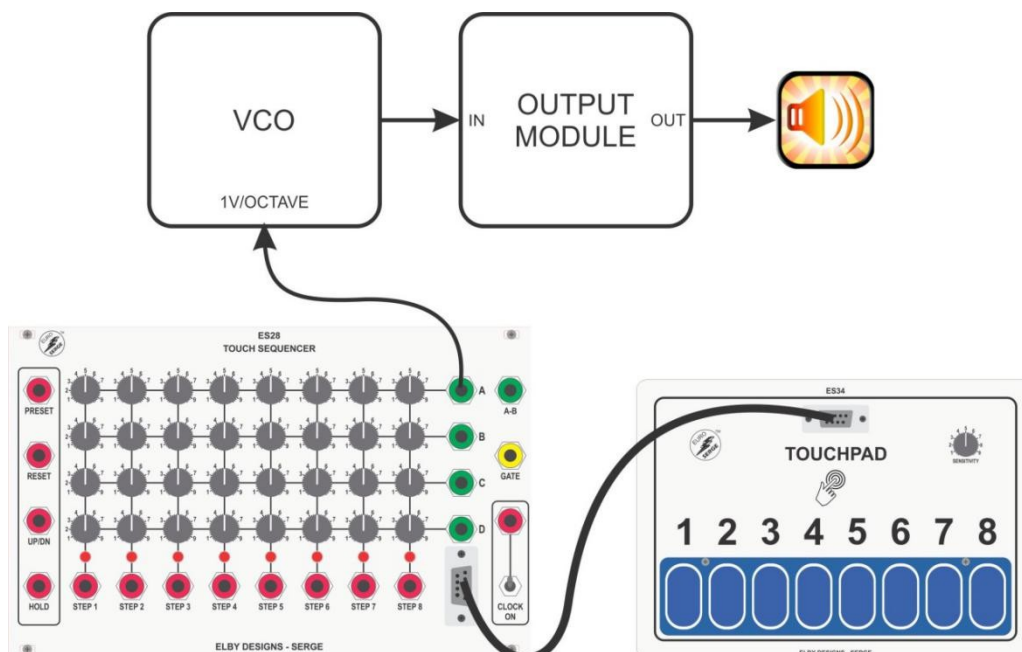

Figure 4.5.1
5.1 The main outputs of the ES28 are located in the last-but-one column on the right. There are five main voltage outputs (green jacks) labelled [A], [B], [C] and [D] and [A+B]. Patch the [A] output of the ES28 to the [1V/OCTAVE] input of the VCO as shown in Figure 4.5.1. The VCO should be set to an audio frequency and its output sent to the output modules.